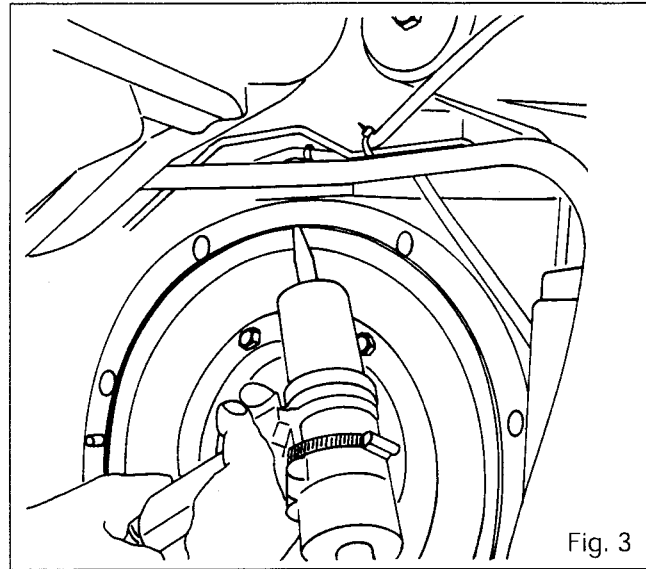

Fig. 3
17. Apply a bead of oil resistant silicone (Silicomex type) to the inner edge of the centre housing (Fig.3).